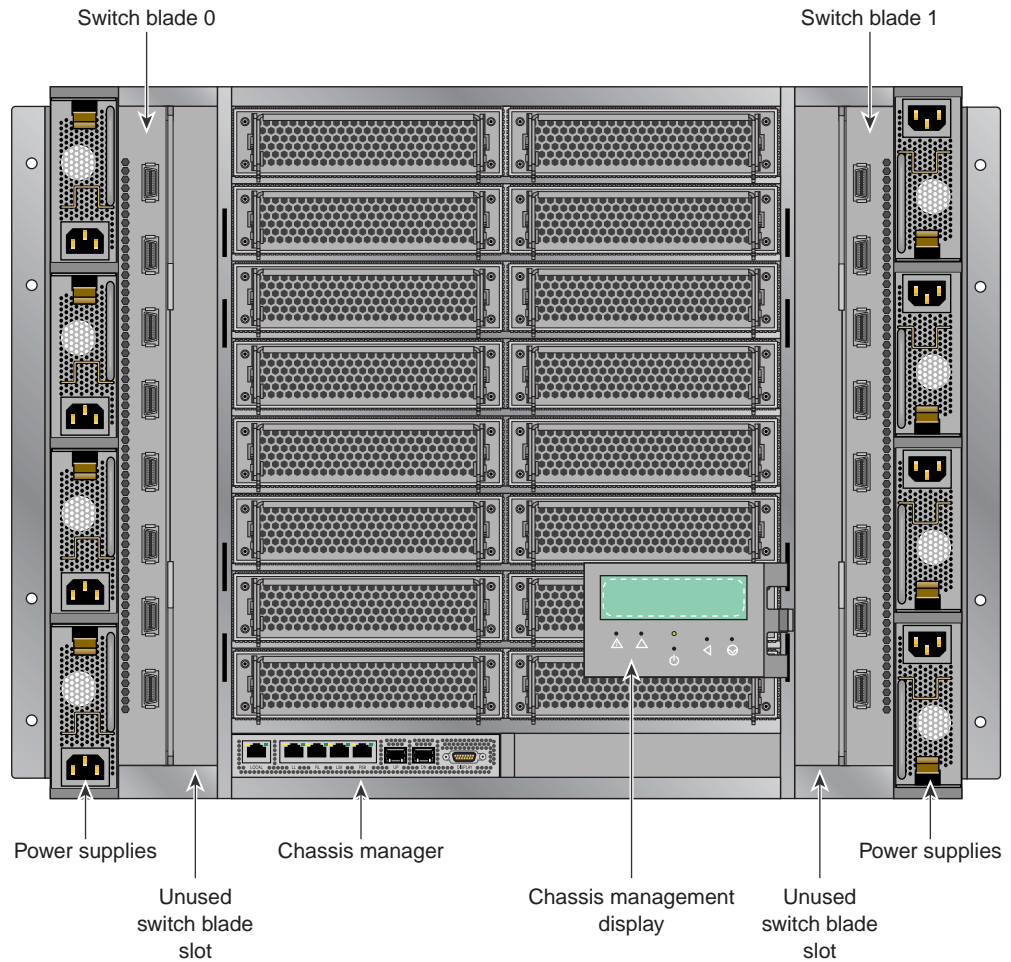

Figure 3-5 Altix ICE 8000 IRU System Components Example
- **Individual Rack Unit (IRU).** This enclosure contains the compute/memory blades, chassis manager, InfiniBand fabric I/O blades and front-access power supplies for the Altix ICE 8000. The enclosure is 10U high. Figure 3-5 on page 32 shows the Altix ICE 8000 IRU system components. Note that the chassis management display is a future enhanced feature component.